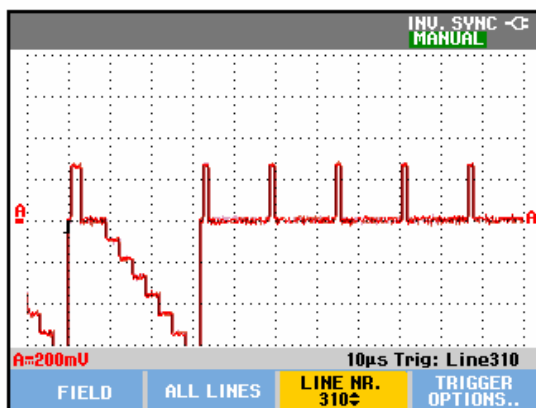
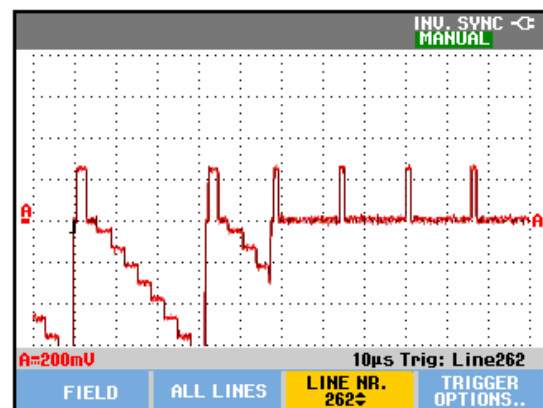

Figure 4-17. Trace for PAL/SECAM line 310 Negative Video
Figure 4-18. Trace for NTSC line 262 Negative Video
10. Observe the trace, and check to see if the Test Tool triggers on line number 310 (PAL or SECAM, see Figure 4-17), or line number 262 (NTSC, see Figure 4-18).